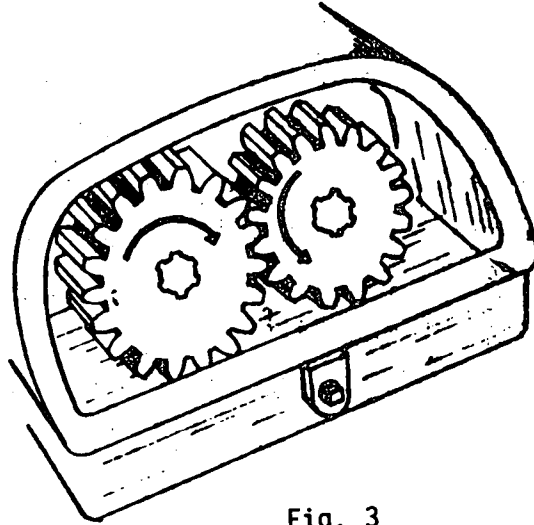

Fig. 3
- c) Working speed, by interchanging the position of the drive and driven gears (Fig. 3).